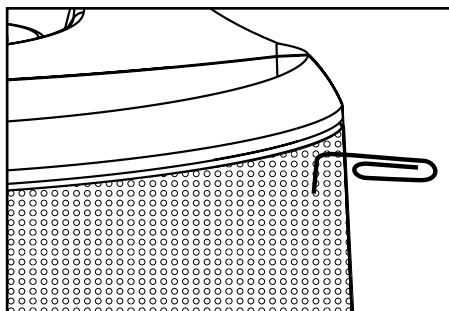

FIGURE 4
1. Separate the parts of the speaker. Remove the brackets and bracket knobs. Remove the grille by carefully hooking it with a bent paper clip and pulling it gently away from the cabinet [figure 4].